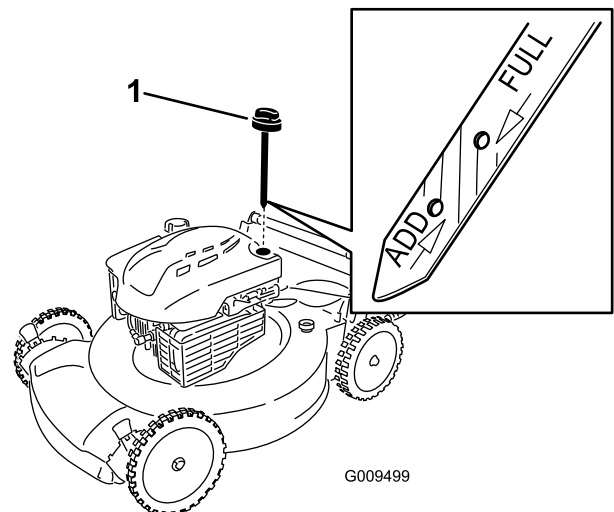

Figure 5
2. Remove the dipstick by rotating the cap counterclockwise and pulling it out (Figure 5).
5. Read the oil level on the dipstick (Figure 5).